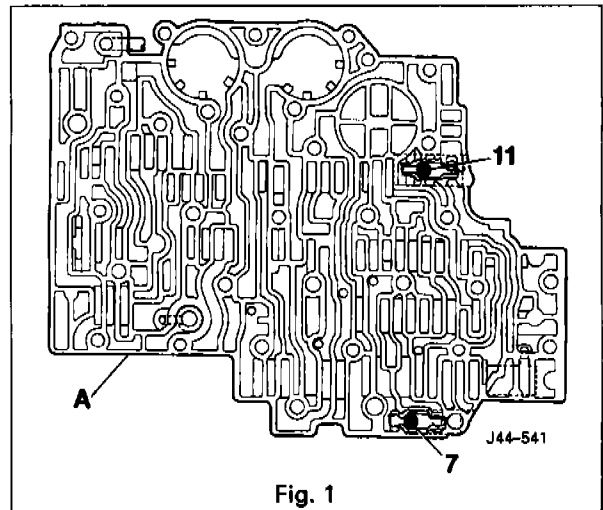

Fig. 1
- Retrieve the check balls from the valve body, see Figs. 1 and 2.